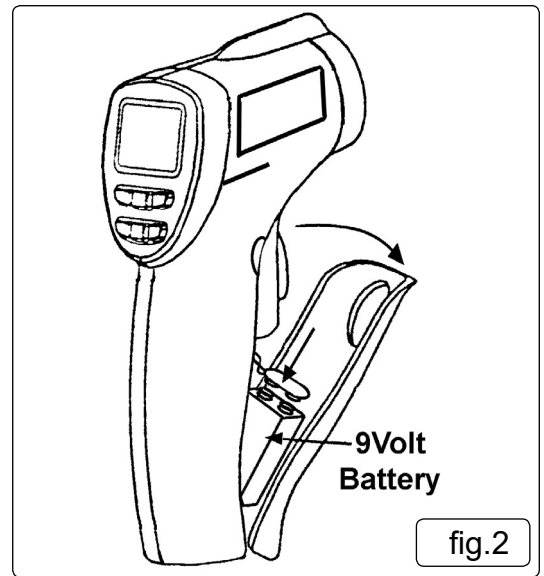

fig.2
4.1. INSTALLING/CHANGING BATTERY (FIG.2)